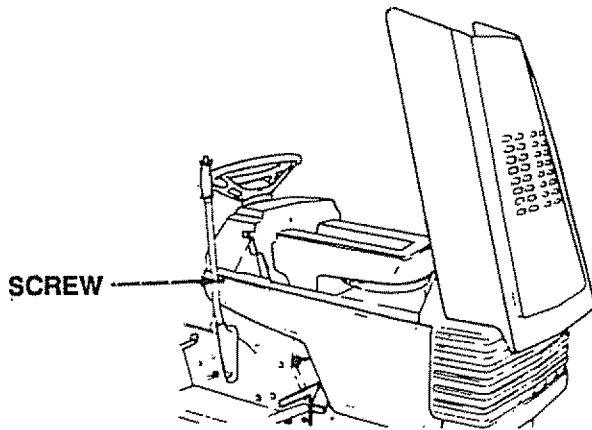

FIGURE 30
- Remove hood (Fig. 30).
- To remove hood, grill and side panels, raise hood and loosen one screw on each side panel. (This screw remains in the side panel) (Fig. 30).
- Unsnap headlight connection (Fig. 30).